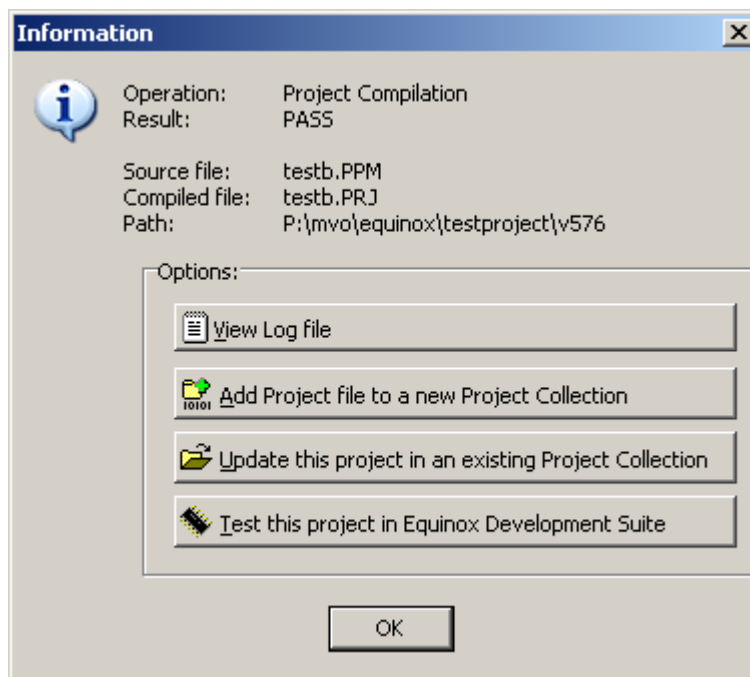

Figure 16 Next Steps after Compilation
1. If coming direct from compile window in Project Builder (Figure 16) then either select the existing file or set the new file, depending on whether you are updating an old project Collection generating a new respectively. Then go to step 7.